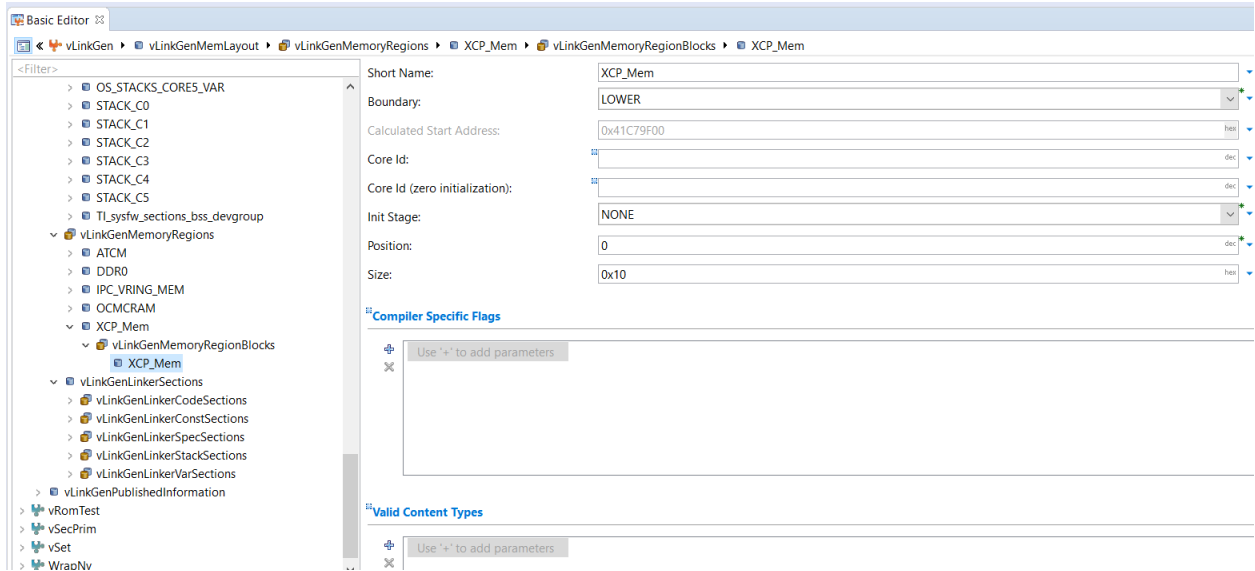

Figure 3
- Create a memory region and target the same to respective Hardware memory area as reference (Figure 3 and Figure 4)